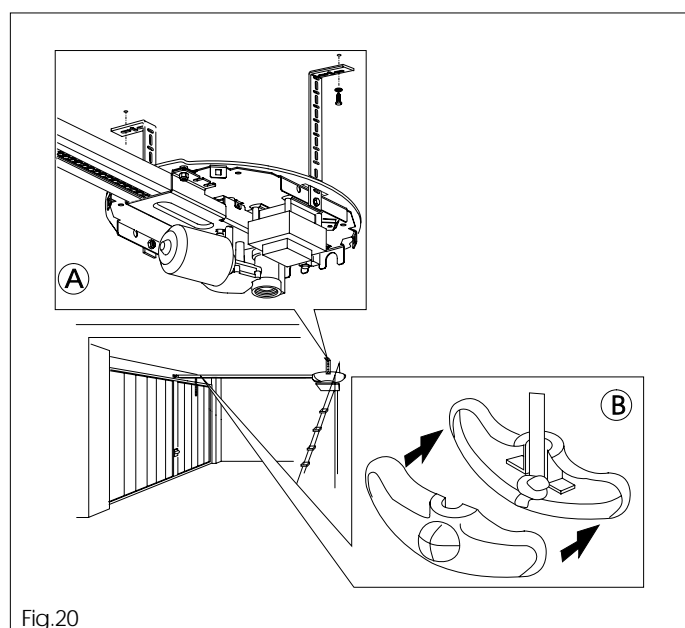

Fig.20
- 6.12 Drill, insert the expansion plugs and, using screws and washers, secure the motor unit to the ceiling (fig. 20 ref. A).
- 6.14 Place the knot inside the knob – as shown in fig. 20 ref. B – and close it.